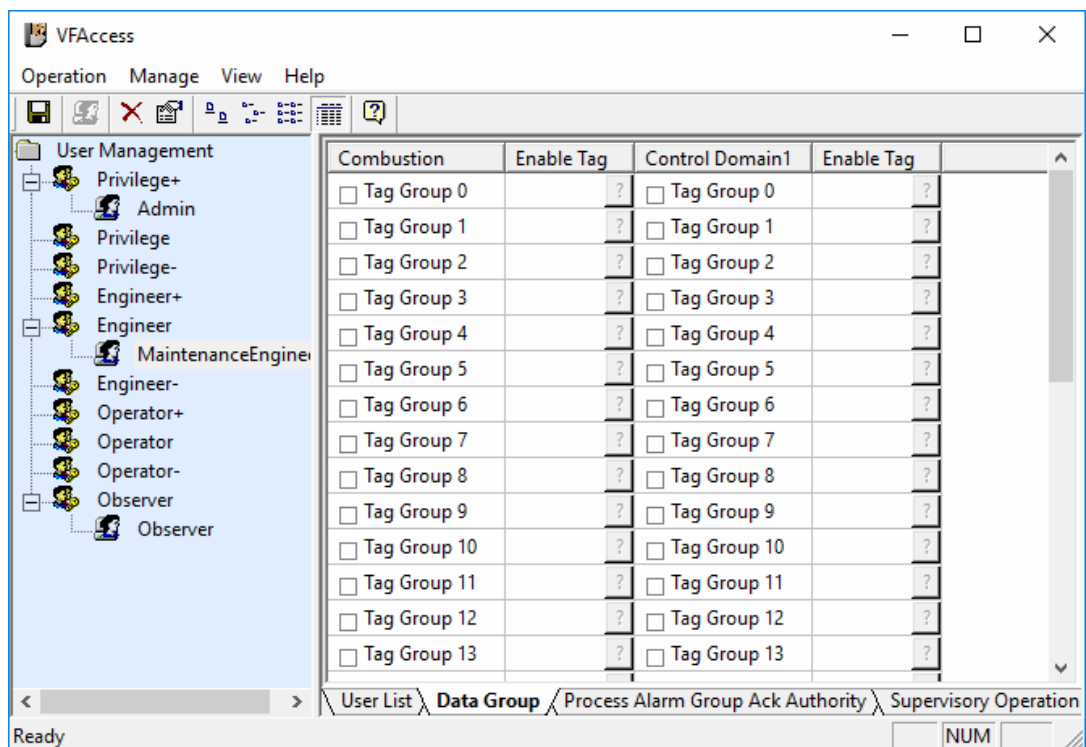

Figure 2-82 Data grouping settings
5. Select the user "Maintenance_engineer" in the left directory tree and choose the page "Data Group" to select tag groups available for user operation, as Figure 2-82: